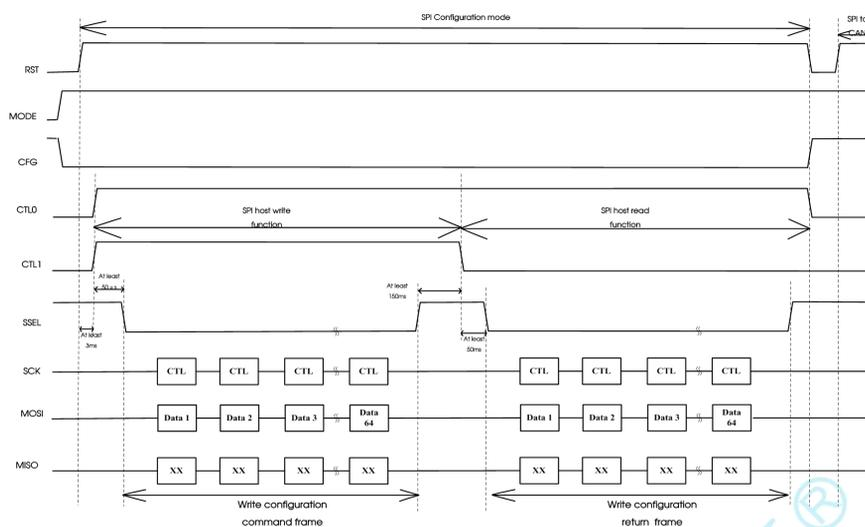

Figure 4.2 Timing diagram of configuration command written through SPI
(1) CFG is set low, MODE is set high, RST is controlled to reset, wait for at least 3ms, and the product enters SPI configuration mode;
(2) The CTL0 and CTL1 pins are set high to control TD5(3)USPCAN to enter the SPI master write state and wait for at least 50µs;
(3) Set SSEL low, MCU sends a write configuration command frame, then set SSEL high, wait for at least 150ms, or detect that the INT pin is low;
(4) CTL0 is set high, CTL1 is set low, and TD5(3)USPCAN is controlled to enter SPI master read state, waiting for at least 50µs;
(5) Set SSEL low, the master sends 5 bytes of invalid data, receives the product write configuration response frame, and then sets SSEL high;
(6) Confirm the MCU write configuration response frame content, and judge whether the configuration is successful;
(7) After configuration, CFG pin is set high, RST is reset, wait for at least 3ms, and the product enters SPI-to-CAN mode. The timing diagram of writing configuration commands through SPI is shown in Figure 4.2. This timing diagram is also suitable for reading configuration commands, verifying product identification and other operations. It only needs to change the SPI reading and writing data and the waiting time after writing configuration commands.